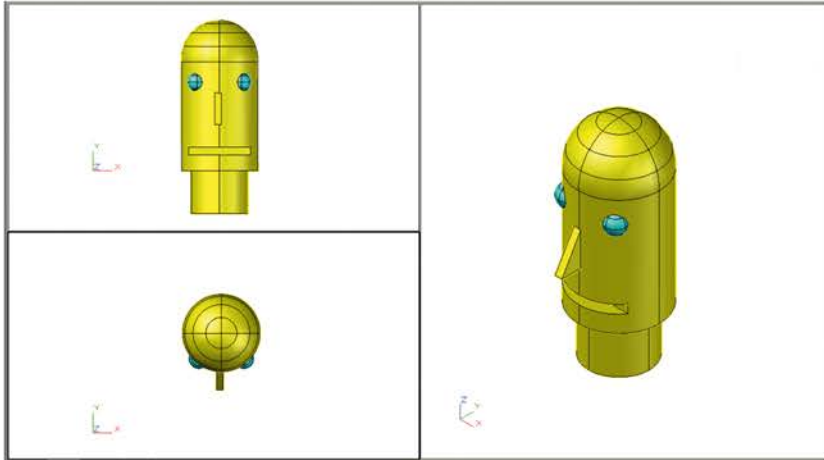

Fig. 10.14 Exercise 1
- Using the **Cylinder**, **Box**, **Sphere** and **Fillet** tools, together with the **Union** and **Subtract** tools and working to any sizes thought suitable, construct the “head” as shown in the **Three: Right** viewport setting as shown in Fig. 10.14.